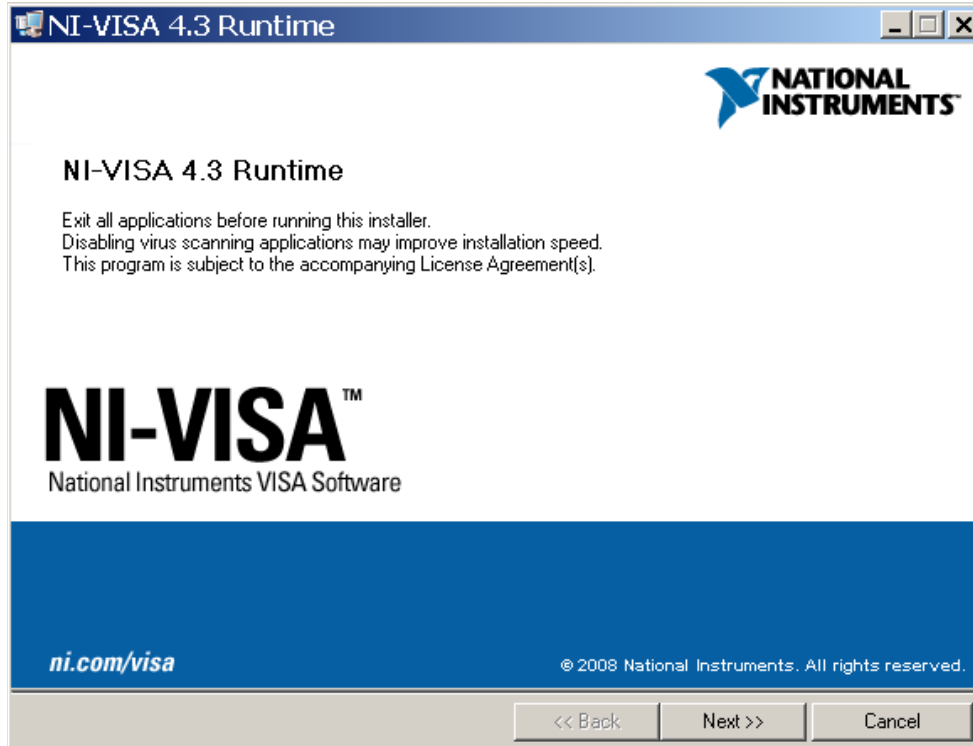

FIGURE 4. NATIONAL INSTRUMENTS RUNTIME ENGINE INSTALLATION WIZARD
In most PCs the National Instruments Runtime Engine will be installed automatically after the ISL88731(C) control software. You should see the window as shown in Figure 4.